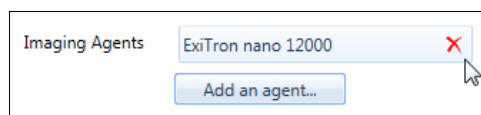

Figure 17. Remove an Agent
- 2 Click the **X** icon as shown Figure 17. The **Remove Agent** window opens.